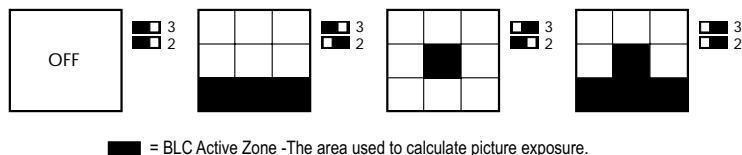

Figure 8. BLC Setup Switches
Three active zones are available when setting the Backlight Compensation mode. The lighting from within the selected BLC active zone (the dark areas in Figure 8) is used to calculate the scene exposure. To select a zone:
2. Use switches 3 and 2 to select one of the BLC active zones (refer to Figure 8).